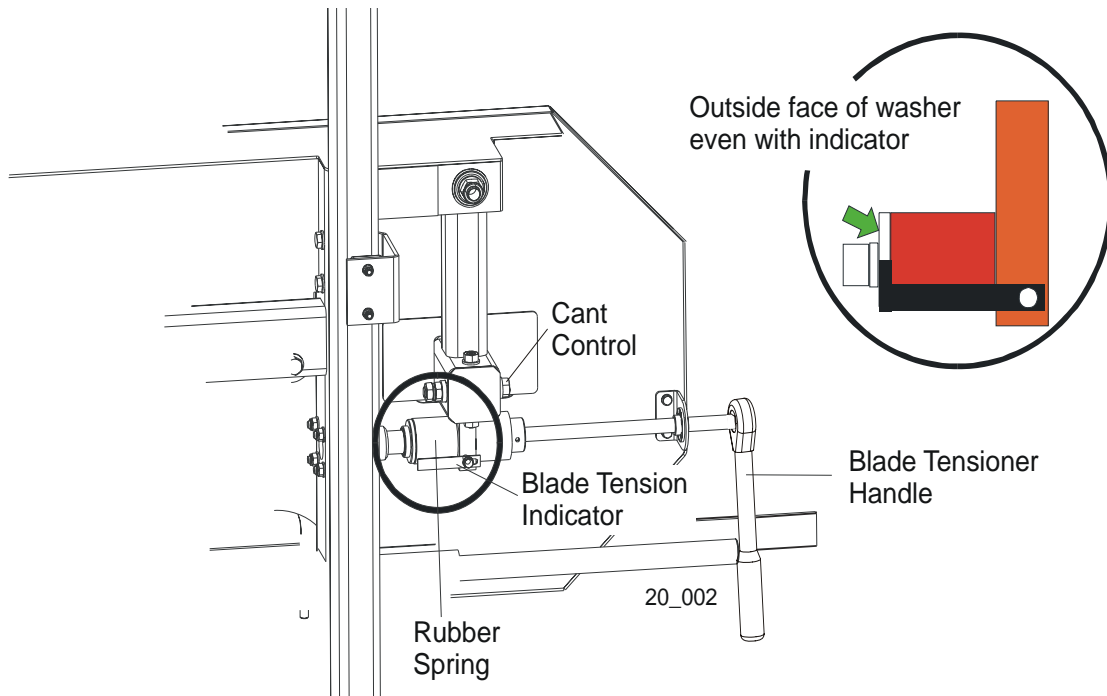

FIG. 2-4
See Figure 2-4. Turn the blade tension handle clockwise to compress the rubber spring and tension the blade. Check the blade tension occasionally when adjusting the cant control or while cutting. As the blade and belts heat up and stretch, the blade tension will change. Adjust the tension handle as necessary so that the indicator is parallel to the blade guide arm.
5. Use the cant adjustment bolt, shown in **Figure 2-4** to adjust where the blade travels on the blade wheels.